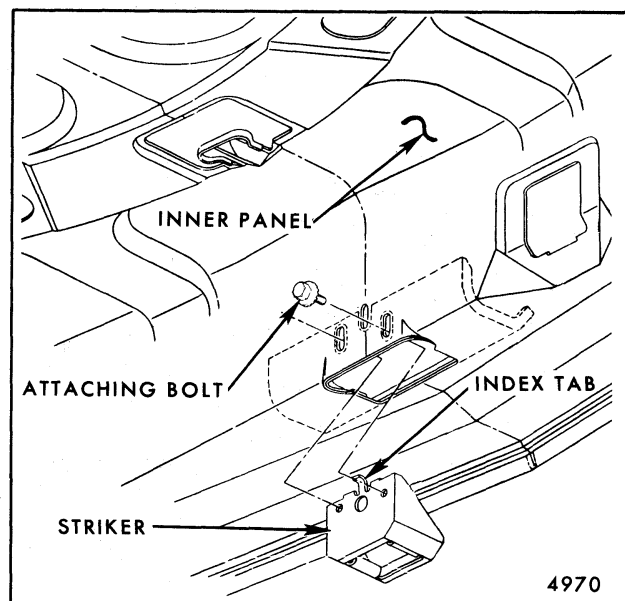

Fig. 7-28-Typical Rear Compartment Lock Striker Mounted in Lid
2. Remove striker attaching screws and remove striker (Figs. 7-28 and 7-29).